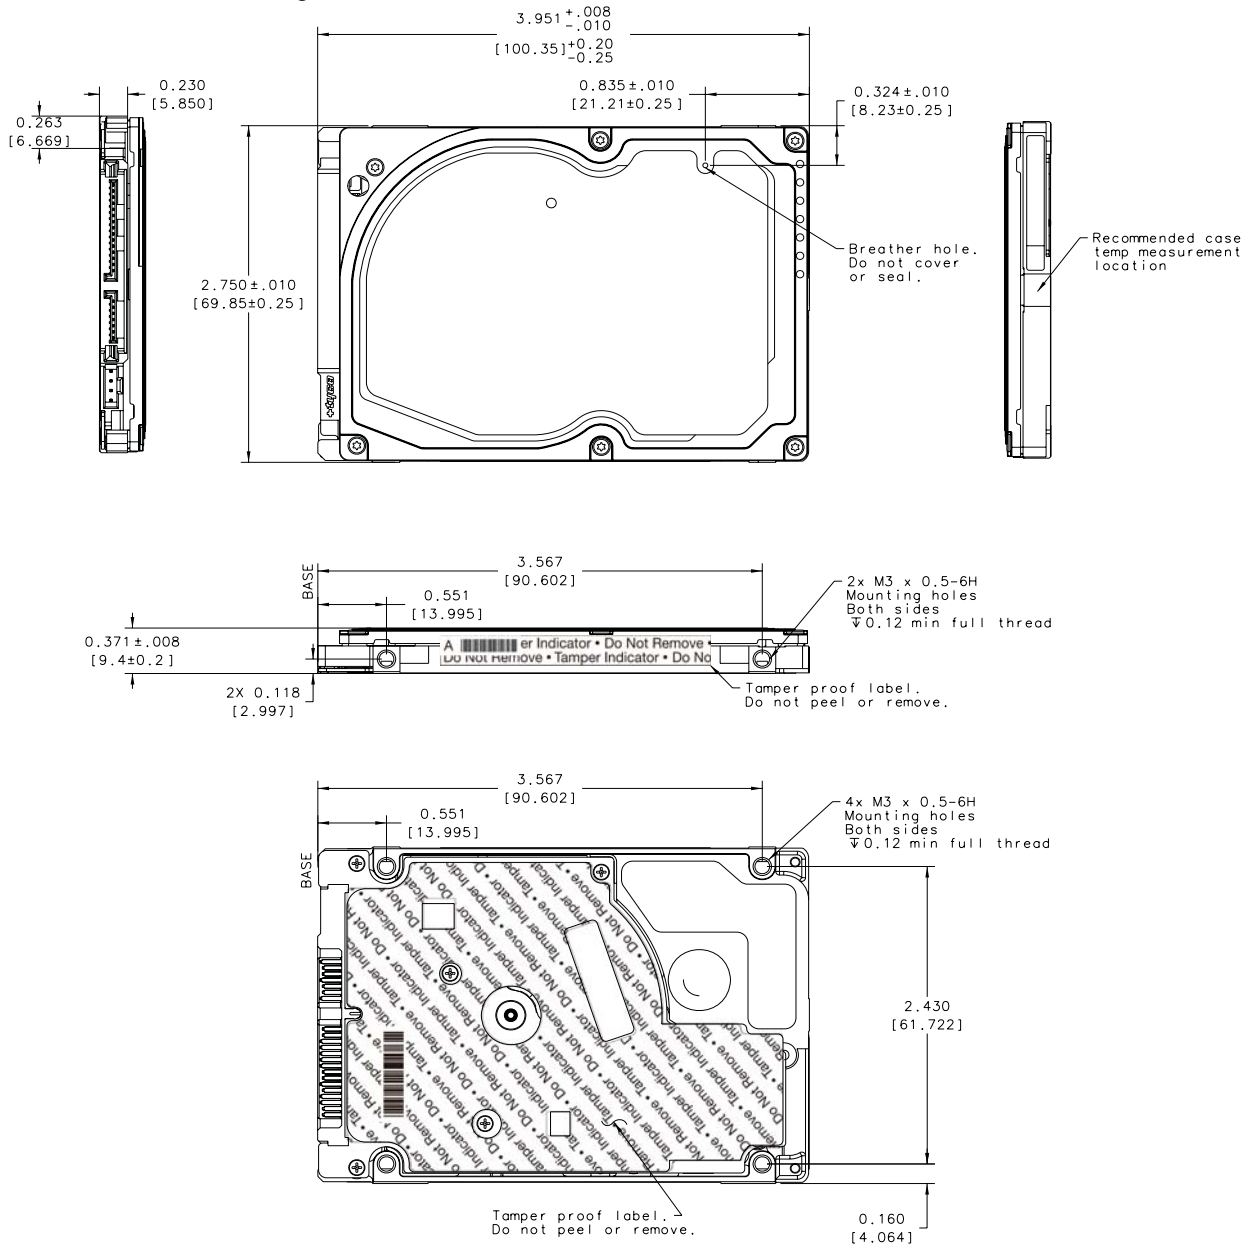

Figure 4. Mounting dimensions
- Do not obstruct the breather hole located on the top cover of the drive. Refer to Figure 4 for the exact location of this hole.
You can mount the drive using four screws in the side-mounting holes or four screws in the bottom-mounting holes. See Figure 4 for drive mounting dimensions. Follow these important mounting precautions when mounting the drive:
Measurements shown in Figure 4 are in inches.